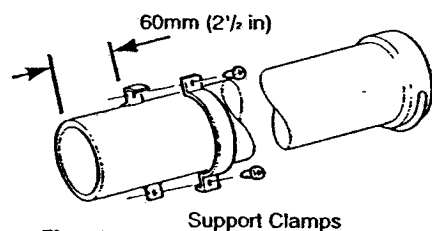

Fig. 56
3. Fit the support clamp provided, 60mm (2 1/2 in) from the plain end of the flue tube and tighten with the two screws (Fig. 56).